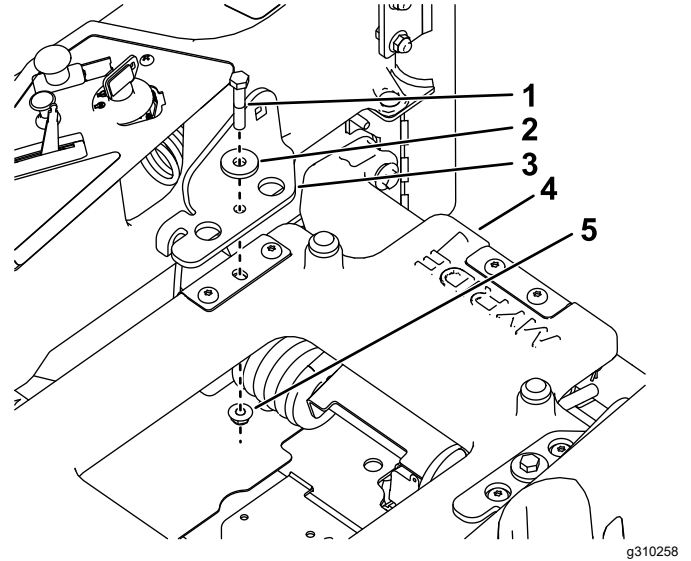

Figure 5
1. Install the seat belt brackets to the seat platform with 2 partial-thread bolts (3/8 x 2 inches), 2 small washers, and 2 locknuts (3/8 inch) as shown in Figure 5.